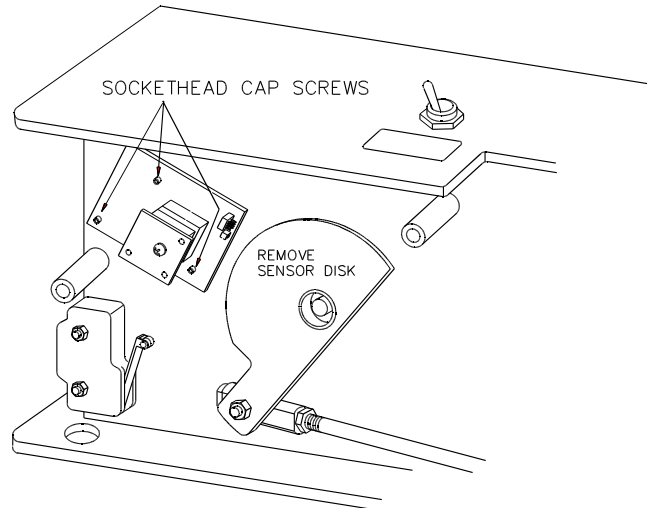

Figure 12
2. Remove the sockethead capscrew securing the sensor disk and slide the disk out of the SCDC Rewind Card (see Figure 12).